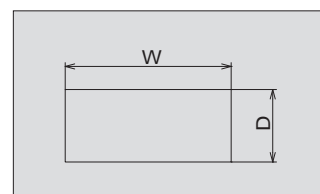
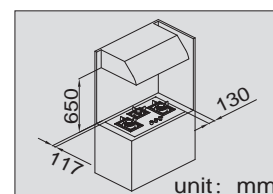

Fig.3
Fig.4
If it's GLG90305&GLG90305-Y, please create an opening with the dimensions 816mm(W)×460mm (D). If it's GLG90505, please create an opening with the dimensions 844mm(W)×488mm(D). If it's GLG60305&GLG60305-Y, please create an opening with the dimensions 554mm(W)×478mm(D). shown in the figure 3. Keep a minimum clearance of 117mm from the rear edge to the combustible material and 130mm from the side edges to the combustible material. Make sure there is a minimum of 650mm between the work surface and the range hood that may be installed directly above them (figure 4).